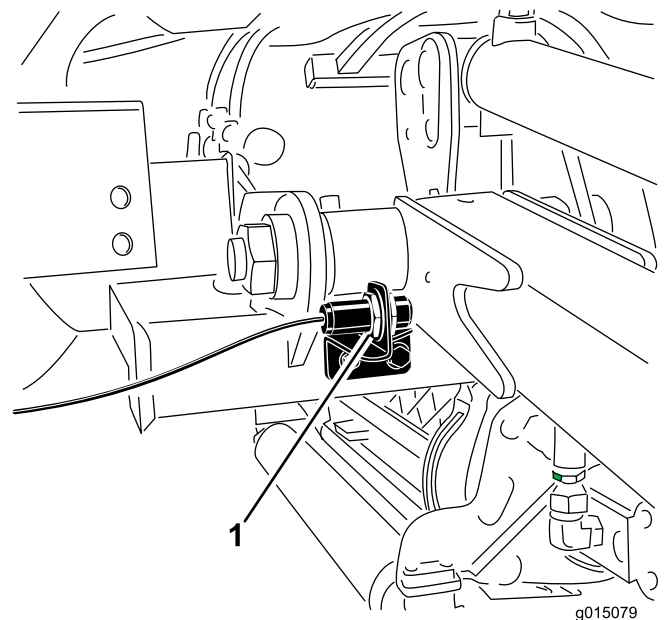

Figure 42
2. The lift arm switch is located behind the front right lift arm (Figure 42).
3. Loosen the switch mounting screws (Figure 42) and move the switch up to increase the lift arm